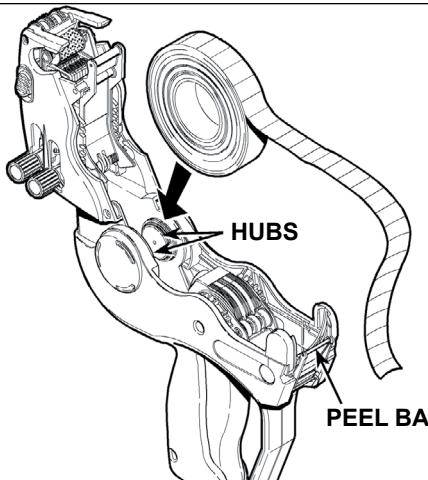

Figure 5
4. Place the label roll between the hubs and click into place. (See Figure 5)